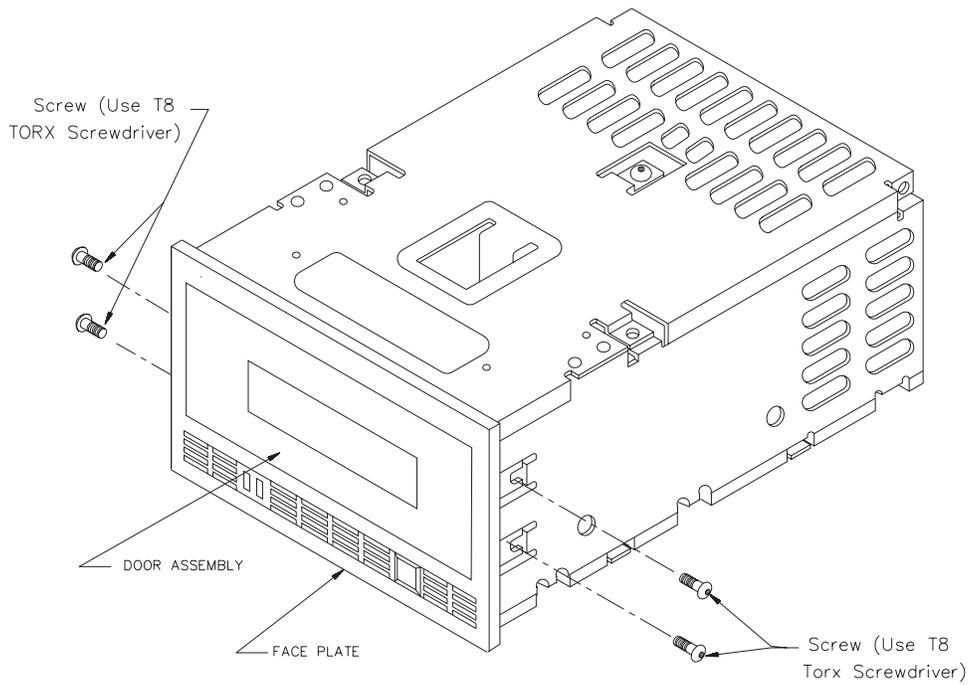

Figure 12-2
3. Using a T8 TORX screwdriver, loosen the four faceplate mounting screws, but do not completely remove them. Figure 12-2 shows the location of these screws.
(same as Figure 12-2)